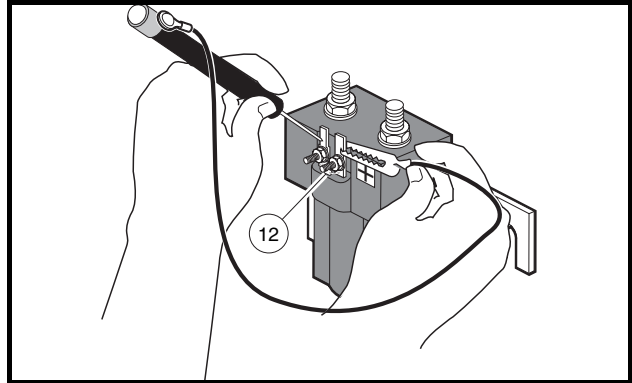

Figure 18-5 Diode Test – Probe Position Two
- 3.2. Reverse the positions of the probe and the alligator clip (**Figure 18-5, Page 18-13**). The tester should not illuminate. If any other reading is obtained, the diode must be replaced. If the diode is functioning correctly, proceed to step 5.